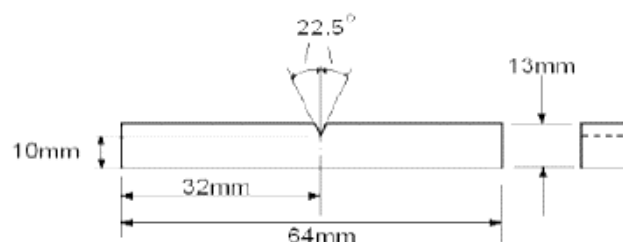

Fig.4: Izod impact test specimen dimensions
5. At its topmost height after breaking the specimen, the indicator stops moving, while the pendulum falls back. Note the indicator at that topmost final position as shown in fig.4